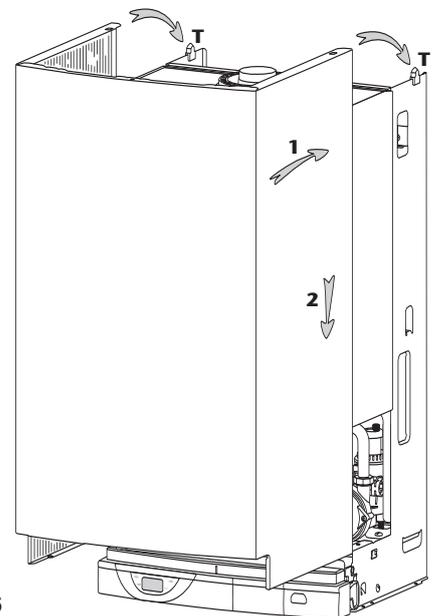

Fig. 16
- Position the casing as shown in Fig. 16